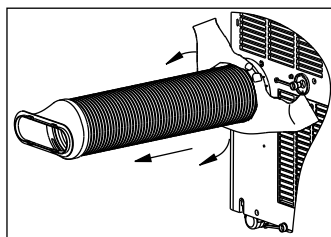

Fig. 30
- Unscrew the exhaust hose to the right or left and pull out for uninstallation. (See Fig. 30.) Keep it safe and cover the window (or wall) hole.